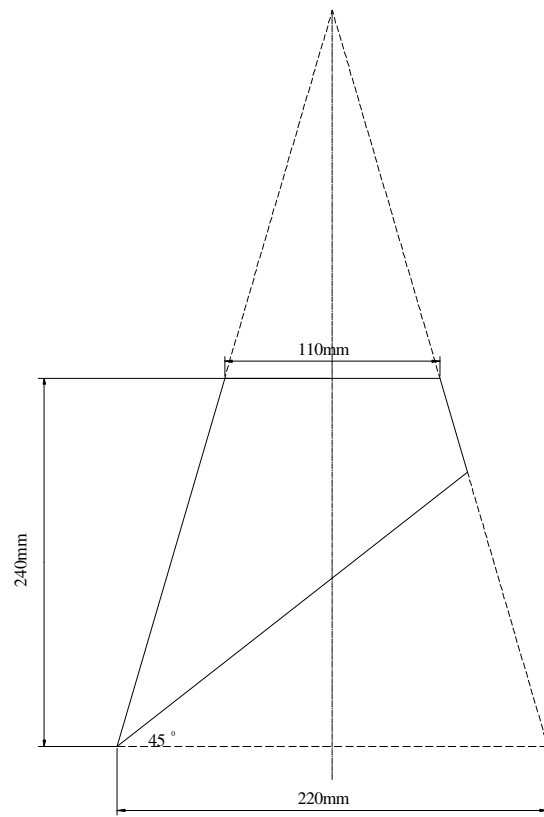

FIGURE 2
- 6.2 FIGURE 2, ANNEXURE A shows the right cone. Use the radial line method to develop the pattern for an object with a shape that tapers from its base to its apex of the right cone.
- NOTE: Scale 1:5 (14)